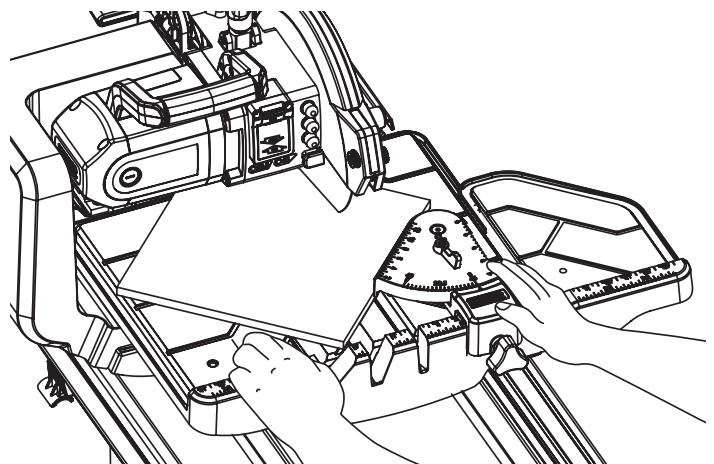

Fig. 45
7. Ease the work table towards the blade to slowly feed the tile into the blade. Continue pushing until the blade cuts completely through the tile (Fig. 45).